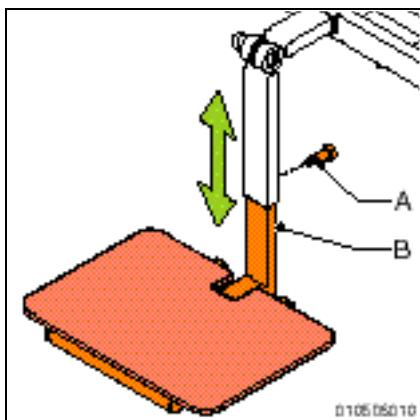

Figure 8
**3.6 Central leg rest****Lower leg length (fig 8)**